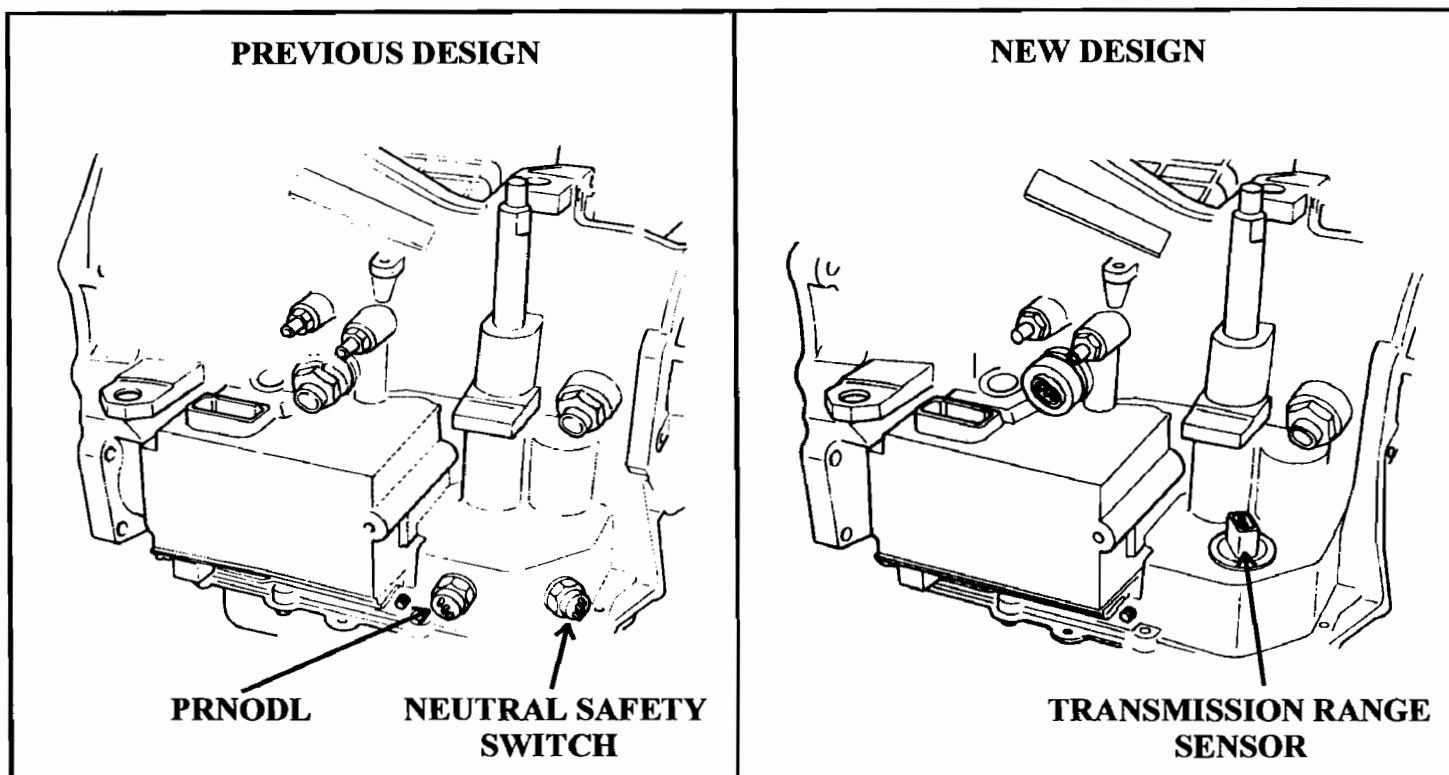

Figure 1
**CHANGE:** Beginning at the start of production 1996, some models equipped with the 41TE (A604) transaxle replaced the PRNODL and Neutral Safety Switch with a Transmission Range Sensor as seen in Figure 1.
- (1) PRNODL SWITCH - The previously used Park, Reverse, Neutral, Overdrive, Drive, Low Switch (PRNODL) has been eliminated and replaced with the new Transmission Range Sensor (See Figure 1).
- (2) NEUTRAL SWITCH - The previously used Neutral Switch has been eliminated and replaced with the new Transmission Range Sensor (See Figure 1).
- (3) TRANSAXLE CASE - The casting of the case change with the elimination of the two threaded holes for the PRNODL and Neutral Safety Switch. An access hole has been added to accommodate the new TRS sensor connector as the switch which is mounted on the valve body (See Figure 1).